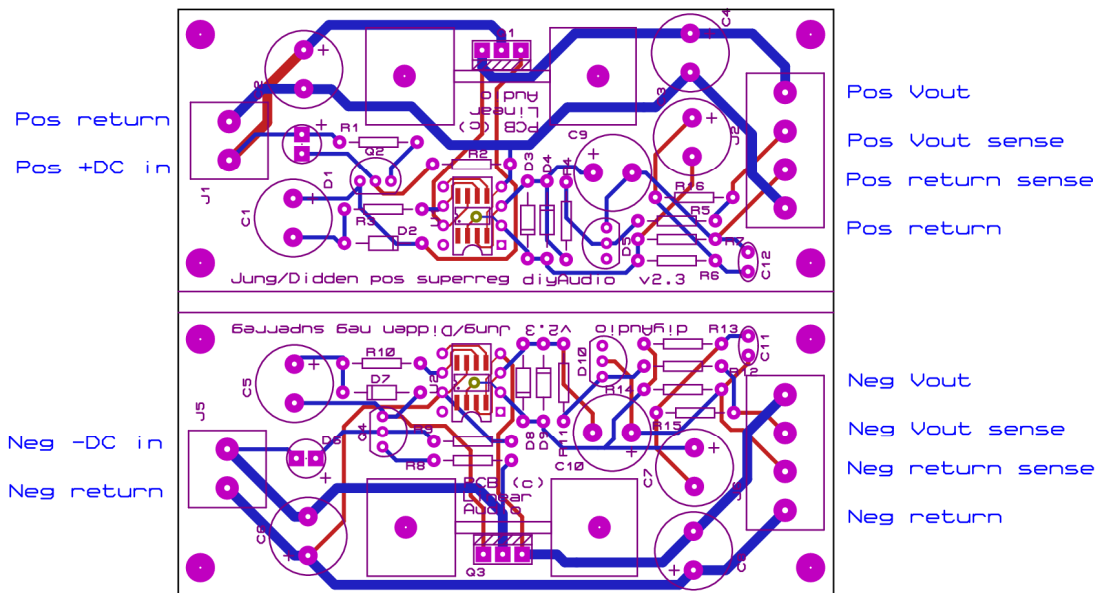
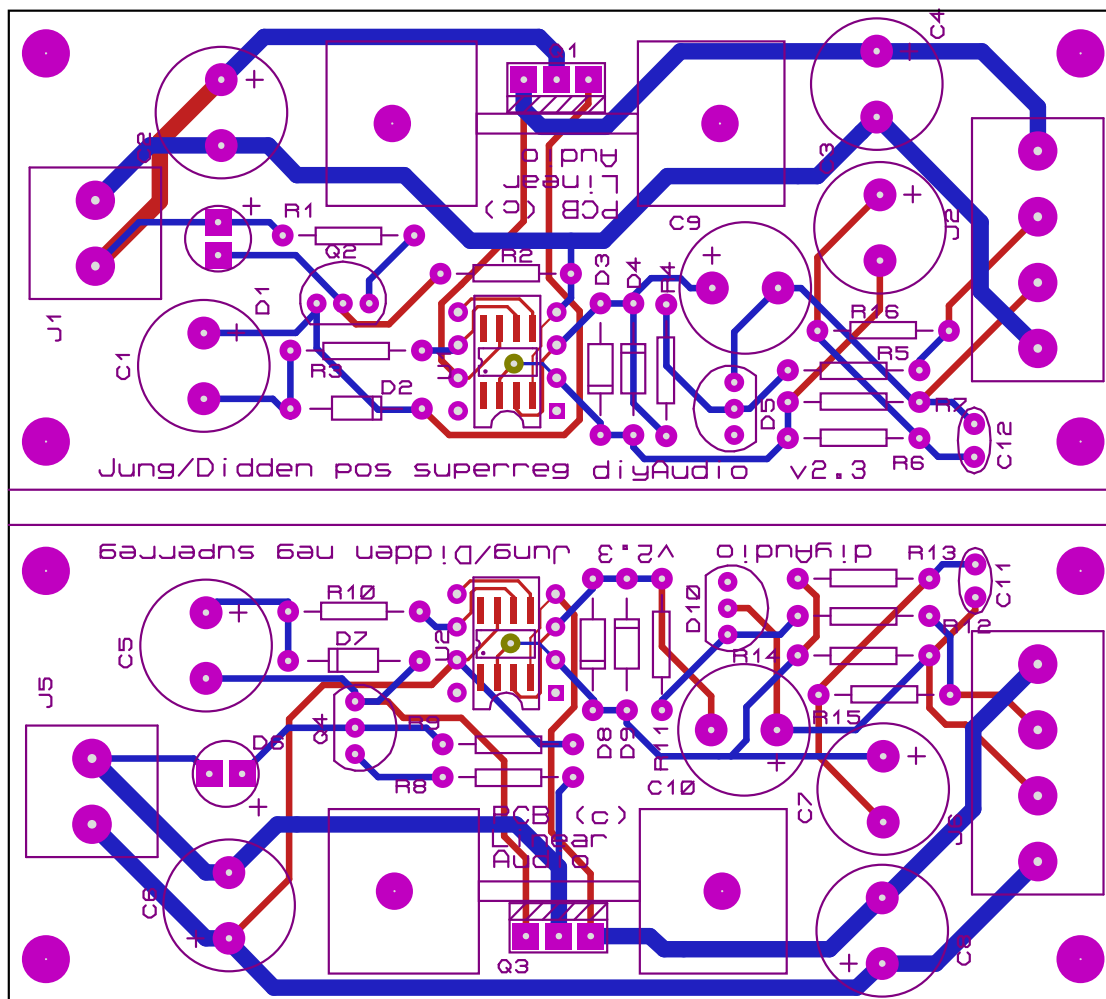
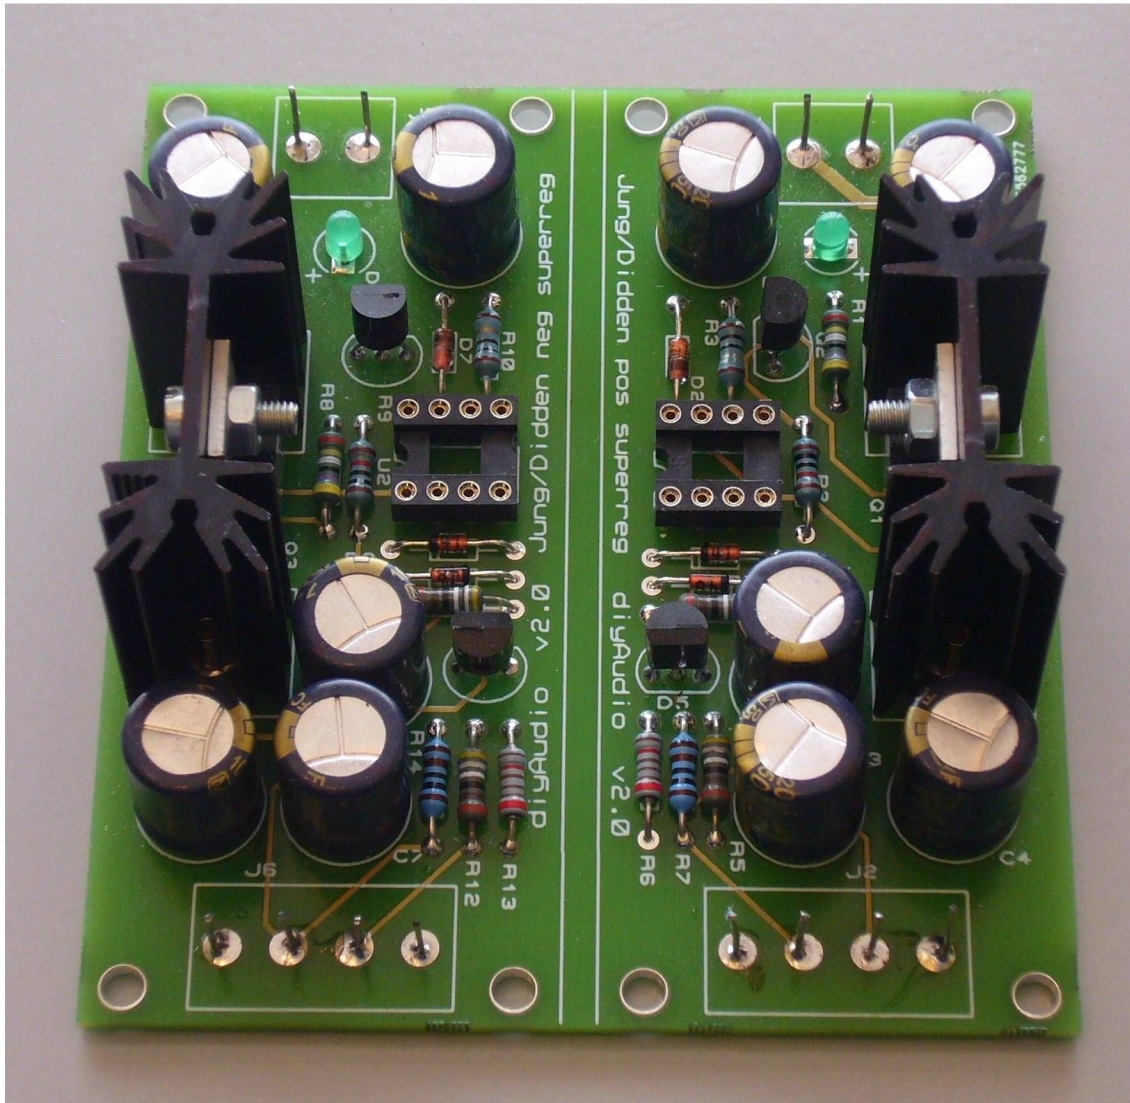

Figure 2 - PCB layout and connections
Figure 3 – PCB stuffing guide
Figure 4 – prototype V 1 superreg (without recommended PCB screw terminals). V2.3 has same form factor and pretty much the same layout.
**Figure 2** is the PCB layout, and **figure 3** is the stuffing guide; **figure 4** is a picture of the final prototype (without the recommended PCB screw terminals). A single PCB holds one pos and one neg reg. You can easily separate them as they are totally independent, and in either case, all holes are at a 10mm pitch...! The recommended opamp for this is the AD825 but
I/O connectivity - see fig 2.